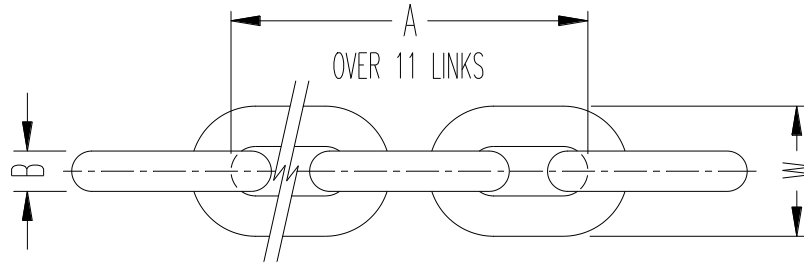

Figure 5. Chain Wear Limits
1. Examine each of the links for bending, cracks in weld areas or shoulders, traverse nicks and gouges, corrosion pits and chain wear, including bearing surfaces between chain links (see Figure 5).